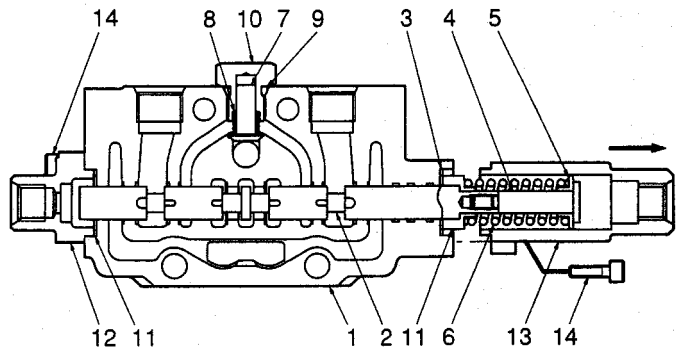

Fig. 29 Slewing spool (hydraulic pilot changeover type)
(A) In case of Hydraulic Pilot Changeover Type (based on Fig. 2 Slewing spool, Section B-B for an example - Fig. 29)
- 1) Remove the two socket bolts (14).